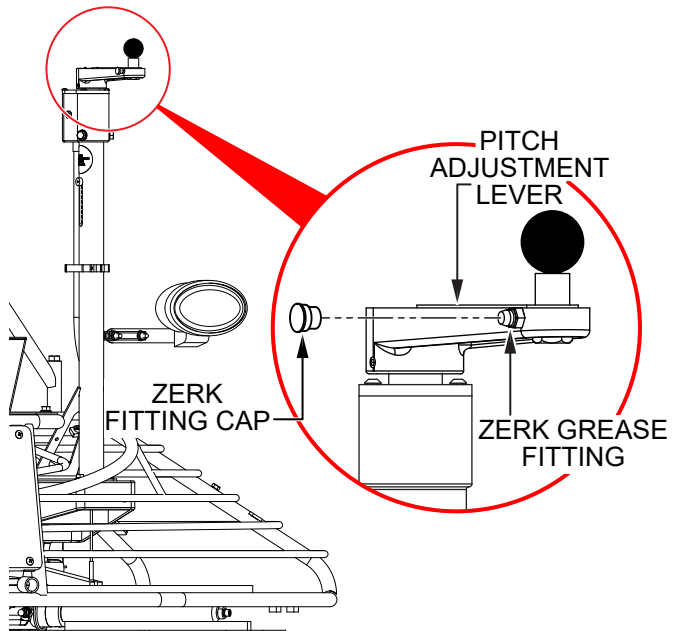

Figure 29. Pitch Adjustment Lever Lubrication
1. Locate the Zerk grease fitting next to the knob on either pitch adjustment lever (Figure 29). Remove the Zerk grease fitting cap and set it aside.